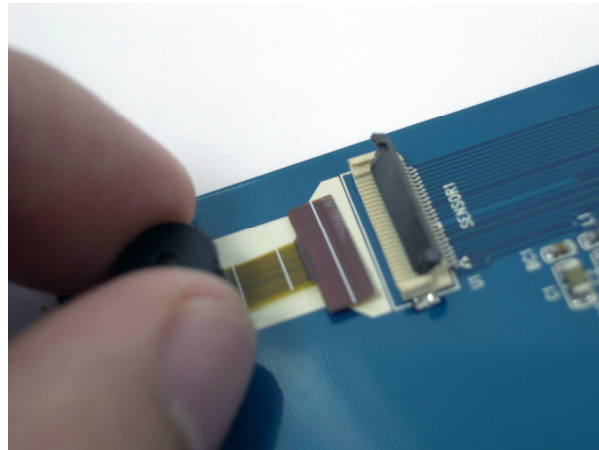

Figure 1.2 Connect the Sensor to “SENSOR1 U1” (For DE2/DE2 Users ONLY)
1. For Altera DE2/DE1 board users, assemble the CMOS sensor lens into the 1st Sensor Connector (Sensor1-U1) on the **DC2** board, as shown in Figure 1.2.